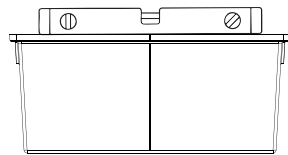

FIGURE 1
A. Set sump base on a 2" minimum thickness layer of **approved backfill**. Check that the sump base is level in at least two directions. Refer to FIGURE 1.